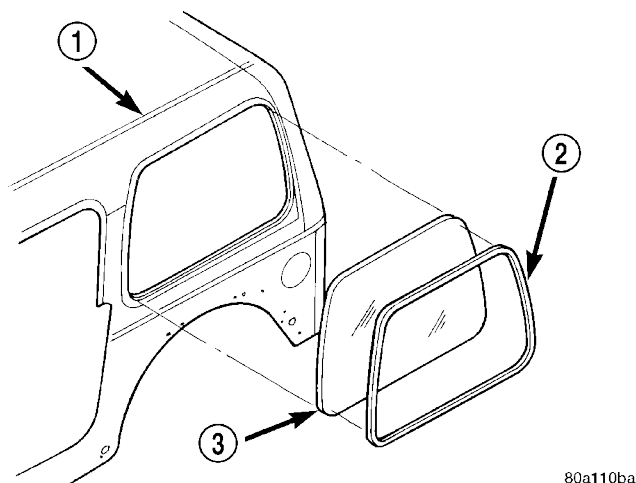

Fig. 1 HARD TOP QUARTER GLASS
(4) Using a cold knife, cut the urethane around the perimeter of the quarter glass.
(5) Remove the quarter glass from the opening (Fig. 1).